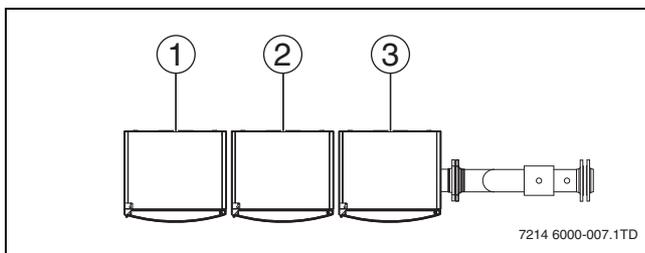
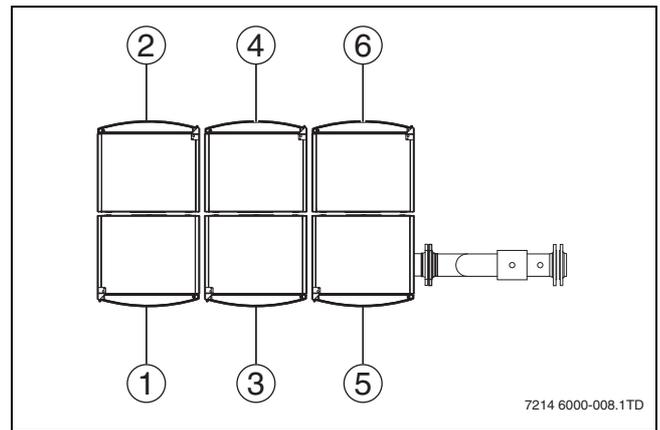

Fig. 7 Installation sequence for a TL-inline configuration
Fig. 8 Installation sequence for TR-back-to-back configuration
- ▶ Hang the first boiler on the cascade frame as shown in fig. 7 or fig. 8.
i You must observe the installation sequence indicated in fig. 7 and fig. 8 when installing the boilers.